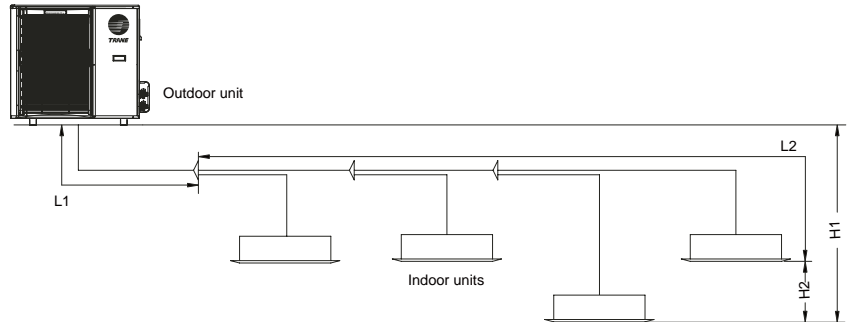

Fig. 2 Piping length and layout
3. Refer to fig. 2 for a typical piping layout. It should be noted long piping length can influence the system performance. The below maximum piping lengths should be strictly followed if more than two indoor units will be installed in one circuit.